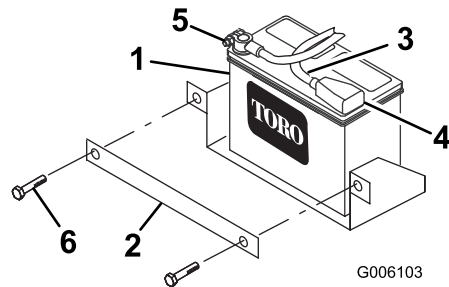

Figure 2
2. Remove the bolts, nuts, and clamp securing the battery (Figure 2).